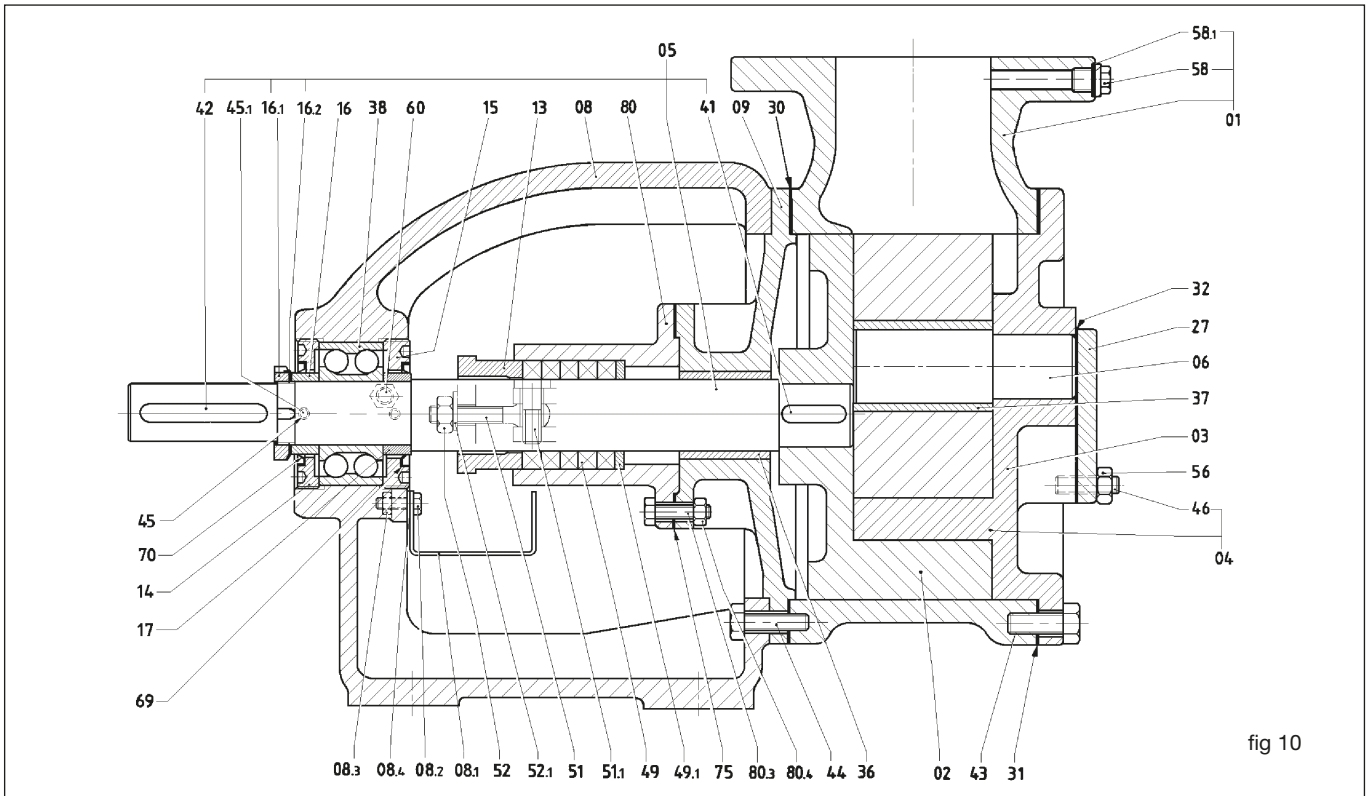

fig 10
**11.1 Removing the cover (04)** (see fig. 10)
- ❑ Unscrew the screws (43). Use the two threaded holes on the cover (if present) to facilitate removal of the cover.
- ❑ When removing the cover, take care not to damage the gasket (31). If this is damaged it should be replaced. Do not use damaged gaskets or gaskets with a thickness different from that of the original gasket (01).
- Attention:** when the cover is removed, the idler may fall off the idler pin (06) if it is not held. This is a potential cause of accidents.
**11.2 Removing the idler (03)** (see fig. 10)
- ❑ Slip the idler off the idler pin (06). The idler bush is fitted to the centre of the idler (37). (Some versions do not have an idler bush and mount a large diameter pin.)
**11.3 Removing the idler pin (06)** (see fig. 10)
**11.4 Removing the casing (01)** (see fig. 10)
- ❑ Remove the screws (44).
- ❑ Disengage the casing from the rear cover (09) taking care not to damage the gasket. If the gasket is damaged, replace it.
- ❑ The rear cover remains centred on the pedestal (08).
**11.5 Removing the ball bearing (38)** (see fig.10)
- ❑ Remove the key (42) from its seat on the shaft (05).
- ❑ Loosen the safety dowels (45).
- ❑ Remove the outer bearing cover (14) and the sleeve (16)
- ❑ Block the rotor (02) to prevent the shaft from turning.
- ❑ Force the shaft out of the bearing using a press. If a press is not available, use a bearing extractor. Bear in mind that the rotor (02), the rear cover (09) and the seal box (80) will also be removed together with the shaft.
- ❑ Unscrew the grease nipple (60), remove the inner bearing cover (15) and force the bearing out of the pedestal (08).
**11.12 Removing the shaft bush (36 fig.10)**
- ❑ Proceed as indicated in points 11.1- 11.2 - 11.4 - 11.5 for pumps with either mechanical seal or packed gland and remove the shaft from the rear cover (09).
- ❑ To remove the rotor (02) use a bench press.
### 12.1 Mounting the ball bearing (38) fig. 10
- Clean the seat on the pedestal (08) thoroughly.
### 12.2 Mounting the shaft bush (36) fig. 10
- Clean the seat in the rear cover (09) thoroughly. The shaft bush must be mounted using a press. It is perfectly symmetrical and can therefore be mounted in either direction. When mounting the bush in its seat, use a continuous movement. ONLY for the V 180 and V 200 (versions with Graphite Bushes), heat the rear cover to 80 degrees C before mounting the bush. Wait until it has cooled completely and use machine tools to bring it to the tolerance indicated by Varisco S.r.l..
### 12.3 Mounting the shaft and rotor (02) fig. 10
- Mount the rotor key (41) in its seat on the shaft and force the shaft into the rotor with a press. Do not mount the shaft key (42).
- Assemble the shaft (05) with the rear cover (09), the gland or seal box (80) and the bearing housing. This operation is easier to carry out with the pump positioned vertically resting on the rotor.